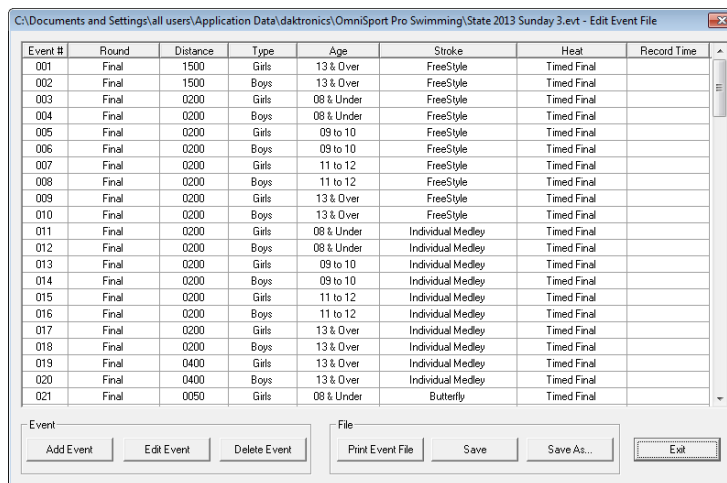

Figure 25: Edit Event File
- Click **Edit Event File** to edit or save a new event file (*Figure 25*).